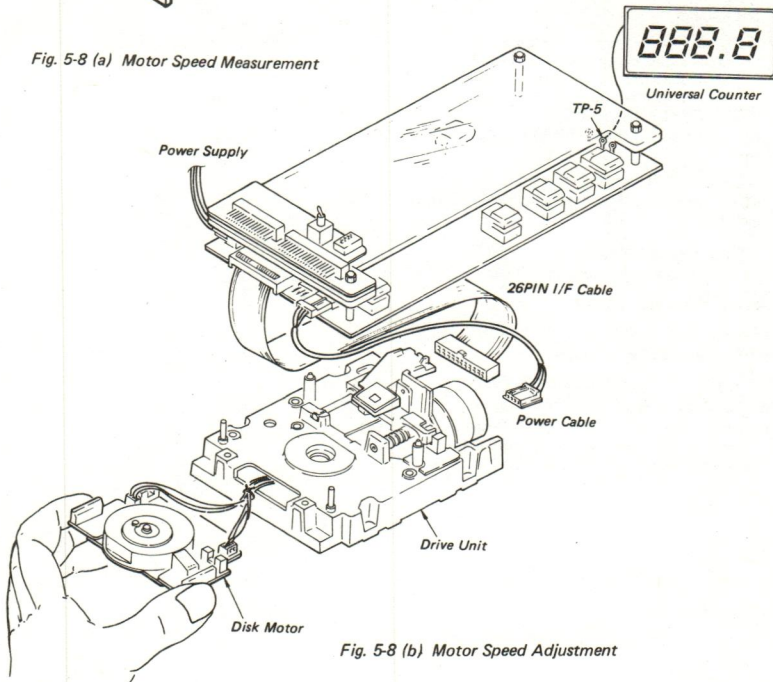

Fig. 5-8 (b) Motor Speed Adjustment
b. Connect the disassembled disk motor board as shown in Fig. 5-8 (b).